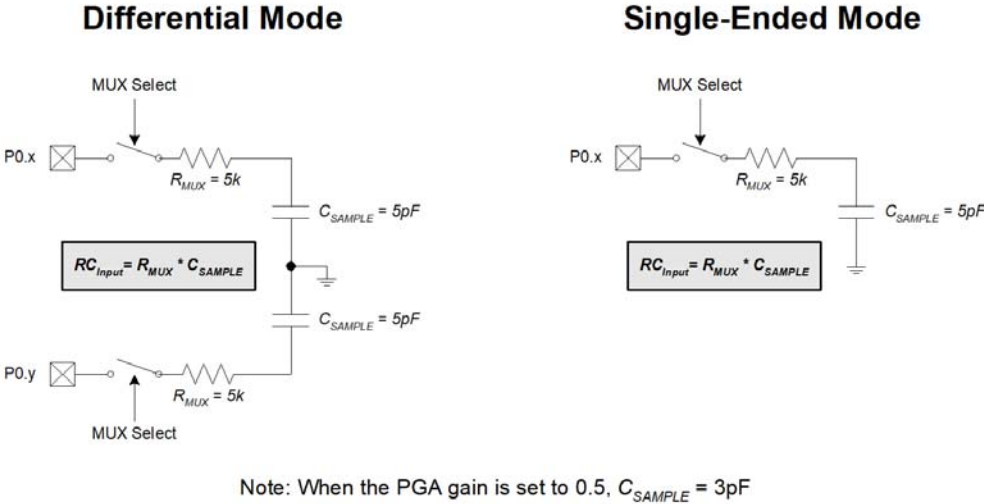

Figure 5.5. ADC0 Equivalent Input Circuits
Figure 5.5 shows the equivalent ADC0 input circuits for both Differential and Single-ended modes. Notice that the equivalent time constant for both input circuits is the same. The required ADC0 settling time for a given settling accuracy (SA) may be approximated by Equation 5.1. When measuring the Temperature Sensor output or V_{DD} with respect to GND, R_{TOTAL} reduces to R_{MUX}. See Table 5.1 for ADC0 minimum settling time (track/hold time) requirements.